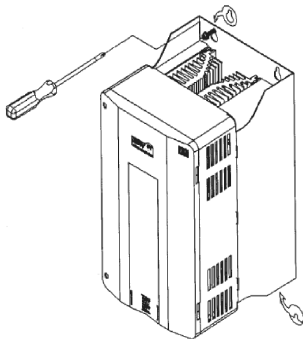

Figure 3: Installation procedures for the DBW-01 and DBW-02 on surface
- Step 3** Install the DBW on the desired surface and securely fasten the holding screws (figure 3).